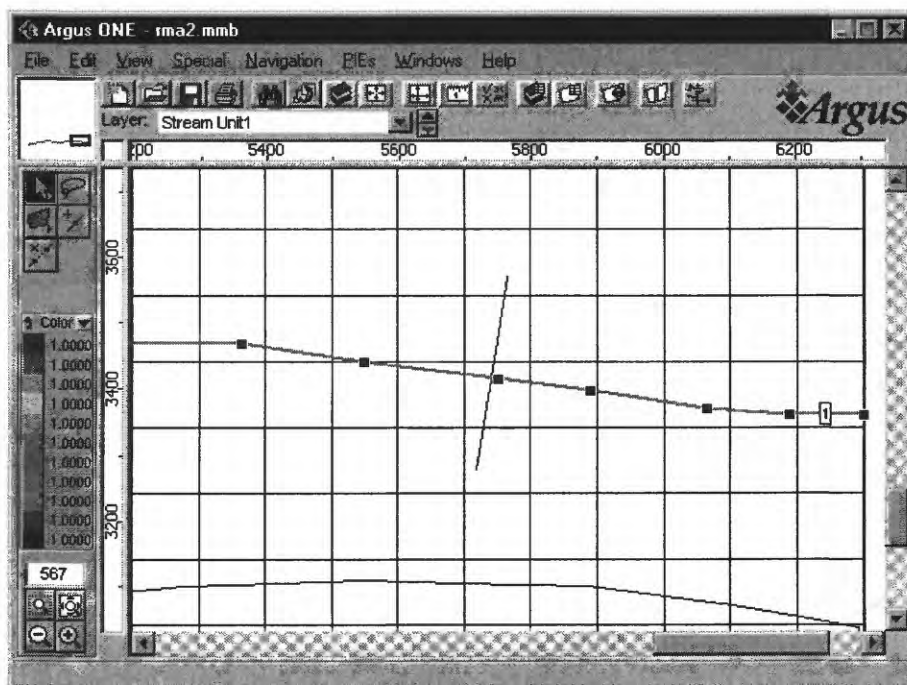

Figure 26. The label of the stream segment indicates the stream flows from right to left.
8. Next we will place a stream on the south end of the model. Make **Maps** the active layer and copy the contour representing the stream and paste it into **Stream Unit1**. The stream slopes from an elevation of 26 m in the east to 3 m in the west. The contour direction and thus the direction of the stream is defined by the order of the vertices in the contour. Because Argus ONE™ can not place arrows on contours to indicate their direction, other characteristics must be used to indicate the direction of the contour. One characteristic that can be used is the position of the label on a contour. The label is always placed between the first and second nodes on a contour. In this case the label is on the right so the direction of the contour is correct (figure 26).